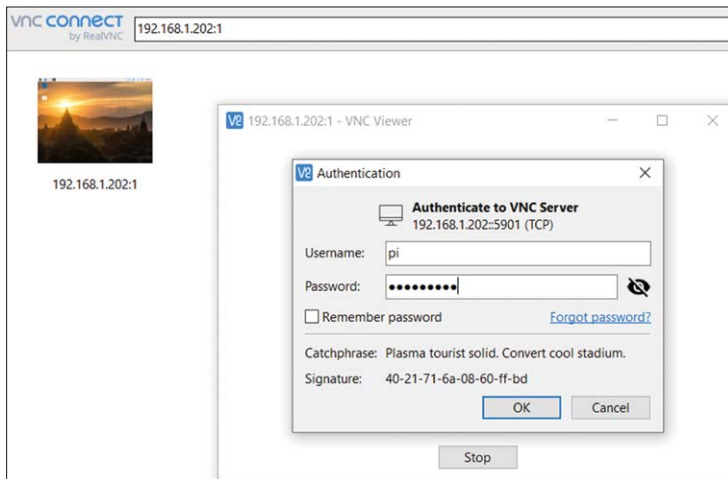

Figure 3.13 Start the TightVNC and enter the IP address
- Start the TightVNC Viewer on your PC and enter the Raspberry Pi IP address (see Figure 3.13) followed by :1. Click Connect to connect to your Raspberry Pi.